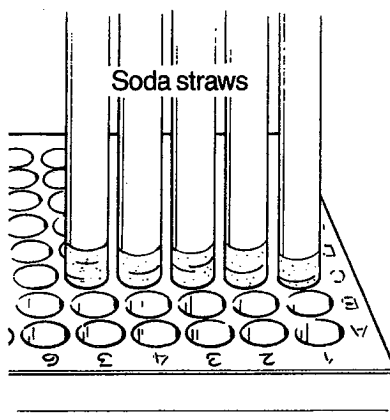

Figure 3-1.
2. Place 5 soda straws in wells C1 to C5 of the microplate as shown in Figure 3-1. The soda straws must fit tightly into the wells of the microplate. If they do not fit snugly, wrap the bottoms of the straws with masking tape.